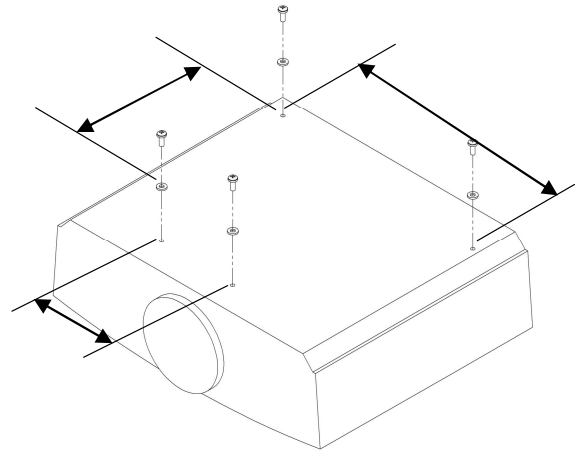

Figure 5. Measure Width and Length Between Mounting Holes in 4-Hole Projector (Example)
- a. If your projector is equipped with four mounting holes, measure the width and length between the mounting holes (see Figure 5).